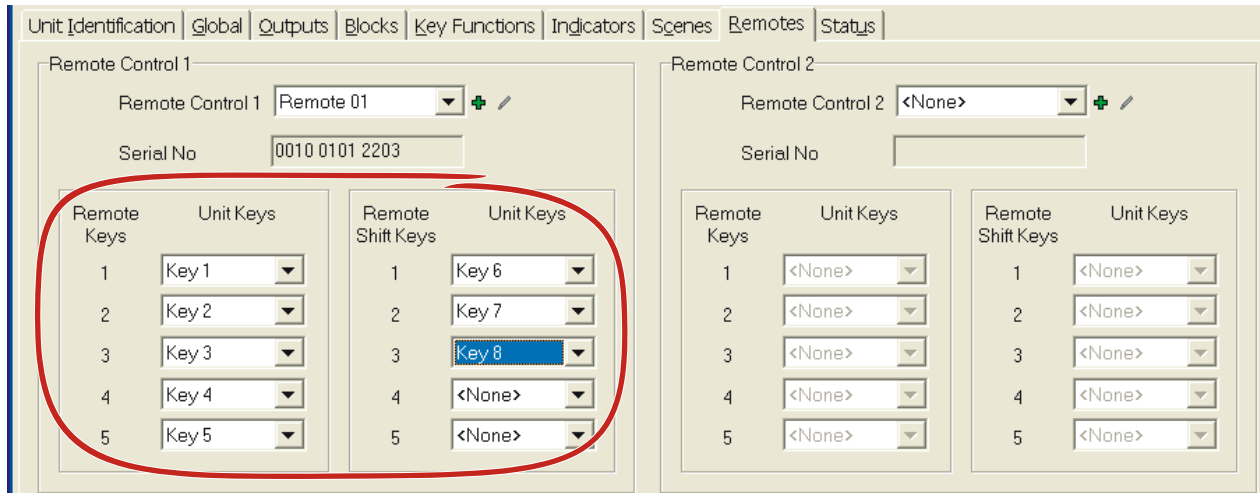

Figure 6 - Assign the buttons of the remote to the plug adaptor
- 13) Assign the buttons of the remote to the virtual keys of the plug adaptor (Figure 6).